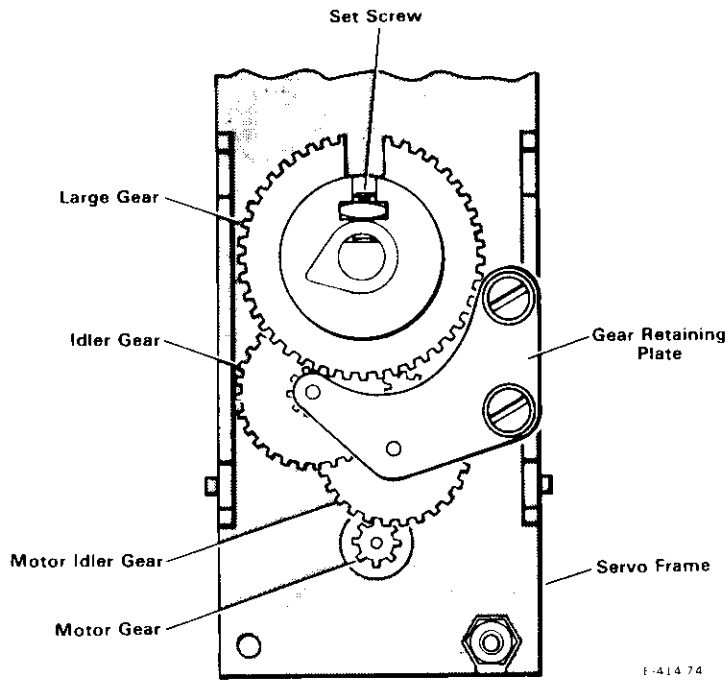

Figure 2. Position of Large Gear for Access to Setscrew
4. Turn gear on motor shaft until setscrew in hub of large gear is accessible as shown in Figure 2. Loosen setscrew and remove large gear.